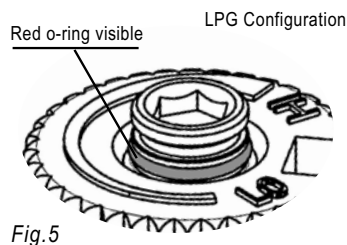

Fig. 5
- 19) If the conversion is from NG to LPG, the screw must be re-assembled with the red o-ring visible (Fig. 5).